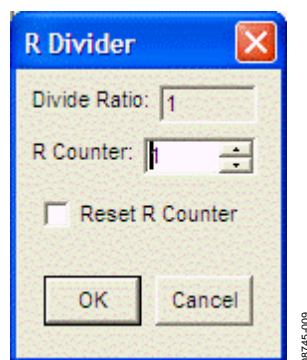

Figure 12. R Divider Window
6. Program the R (reference) divider by clicking the **R DIVIDER** box at the top of the main window. Set the desired value and click **OK** (see Figure 12).
The **R Divider** window shown in Figure 12 is accessed by clicking the **R DIVIDER** box on the main window. It allows you to set the reference divider. If this box is colored gray, the PLL is off. To turn the PLL on, click the **PLL MODE** box at the top of the main window, and select **Norm Op**.